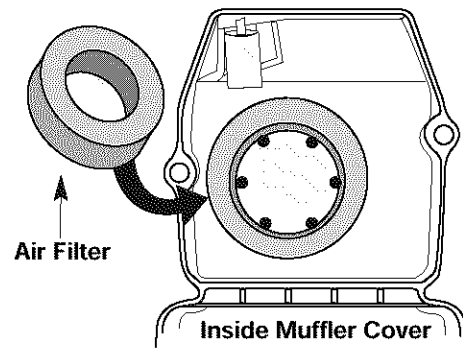

Fig. 37
2. Turn cover over and look inside to locate the air filter. Remove the air filter from inside the air filter/muffler cover (Fig. 37).
- Replace the air filter inside the air filter/muffler cover (Fig. 37, Pg. 20).